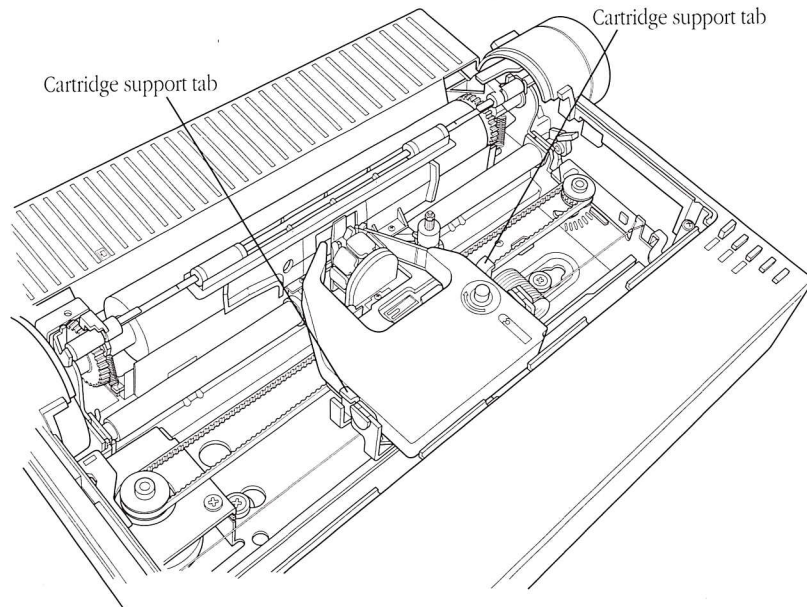

Figure 2-7 Properly seated ribbon
4. When the ribbon is in position, gently press the cartridge between the two cartridge support tabs, so that the ribbon snaps into place. (See Figure 2-7.)